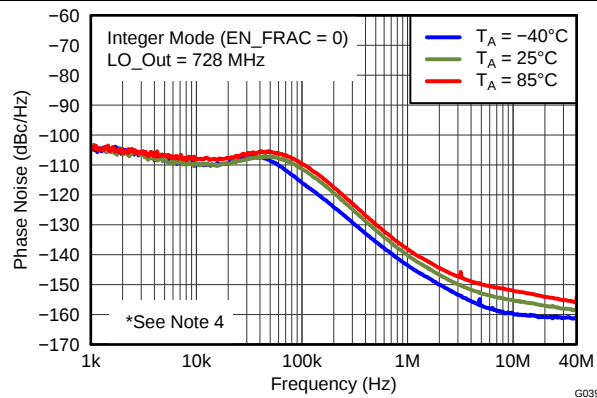
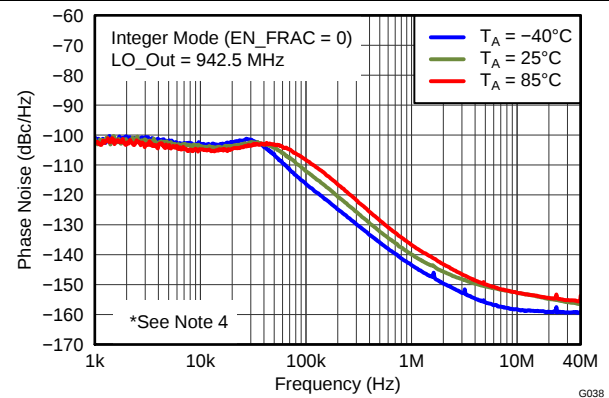
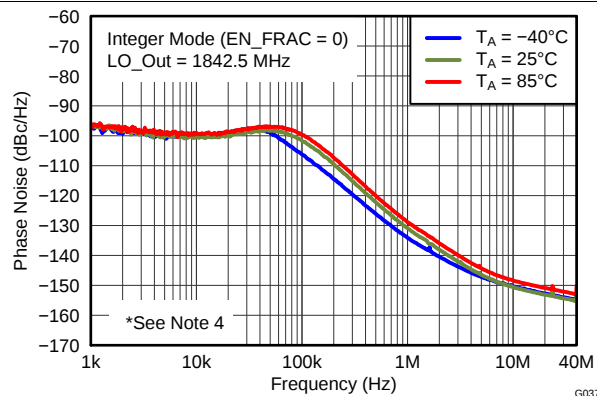

Figure 35. Closed-Loop Phase Noise vs Temperature (728 MHz,  $V_{CC\_TK} = 3.3\text{ V}$ , Integer Mode)
Figure 36. Closed-Loop Phase Noise vs Temperature (942.5 MHz,  $V_{CC\_TK} = 3.3\text{ V}$ , Integer Mode)
Figure 37. Closed-Loop Phase Noise vs Temperature (1842.5 MHz,  $V_{CC\_TK} = 3.3\text{ V}$ , Integer Mode)
| Closed-Loop Phase Noise                           | vs Temperature (4)              | Figure 35, Figure 36, Figure 37, Figure 38, Figure 39, Figure 40, Figure 41 |